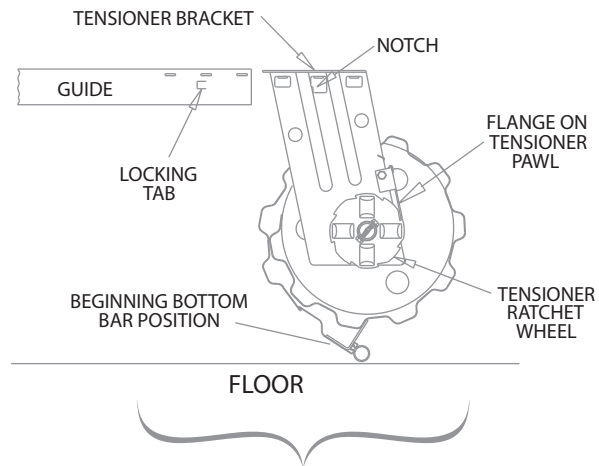

FIGURE 3
- At tensioner end of door, lift flange on tensioner pawl until end of the pawl clears the tensioner ratchet wheel. Rotate bracket in order to position short leg end upward. Release flange on pawl and allow end to engage with the nearest tooth on the ratchet wheel. **See figure 3.**
- A. At tensioner end of door, lift flange on tensioner pawl until end of the pawl clears the tensioner ratchet wheel. Rotate bracket in order to position short leg end upward. Release flange on pawl and allow end to engage with the nearest tooth on ratchet wheel. **See figure 3.**